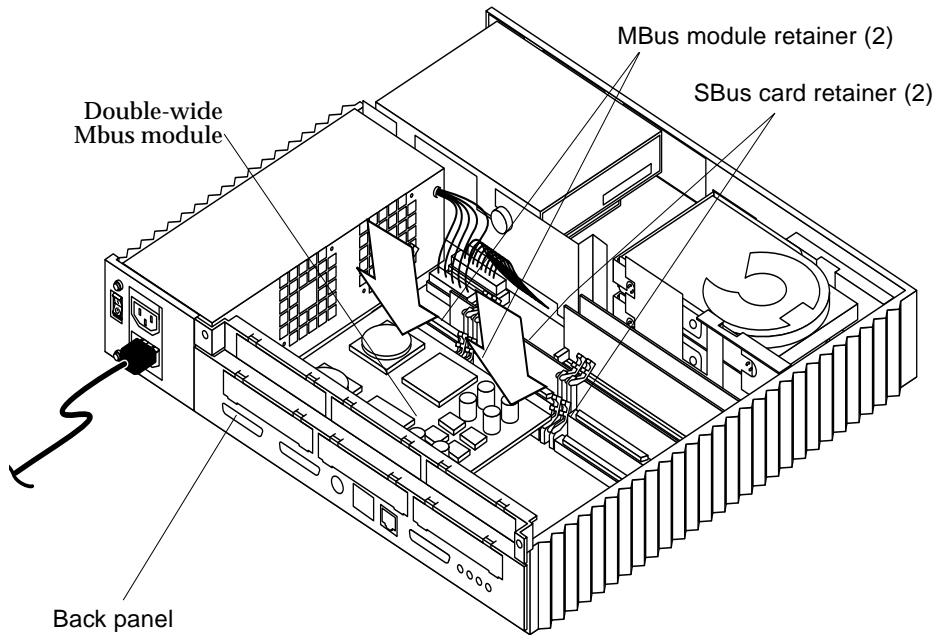

FIGURE 11-8 Installing a Double-Wide MBus Module
1. **Unlock the MBus module retainers and the SBus card retainers (FIGURE 11-8).**